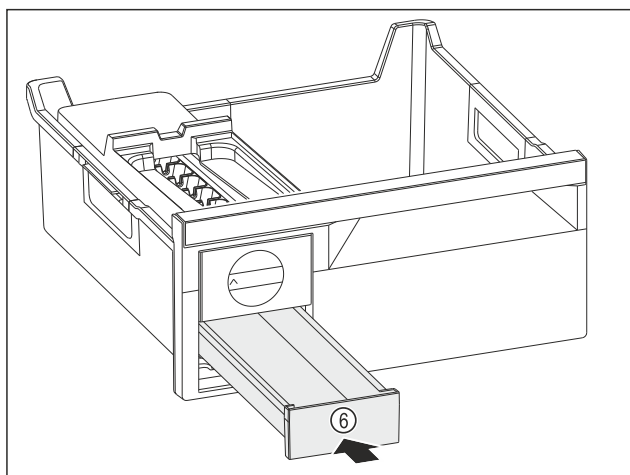

Fig. 96
- Insert the ice cube tray Fig. 96 (6).